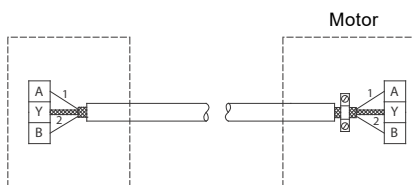

Fig. 22 Connection with screened 2-core cable
- If you have used a screened 2-core cable in the existing installation, connect the cable as shown in fig. 22.